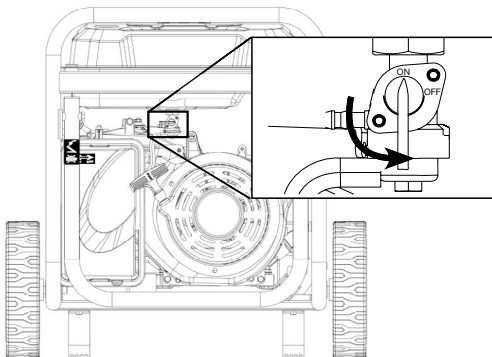

Figure 9 - Fuel Shut Off - ON
- ① 240/120V Main Circuit Breaker Operating Position
- ② 240/120V Main Circuit Breaker Tripped Position
- ③ 120V Circuit Breaker Operating Position
- ④ 120V Circuit Breaker Tripped Position
4. Move the fuel shutoff valve to the ON position (see Figure 9).
3. Move the fuel shut off valve to the ON position (see Figure 9).